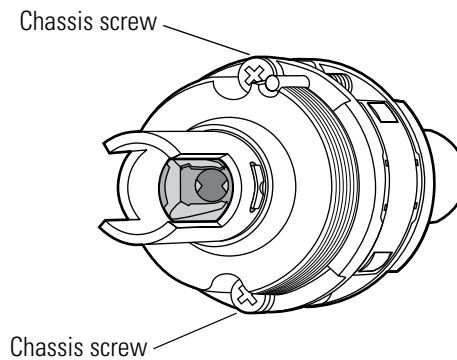

Figure 3.16 Separating the hub and sleeve assembly from the chassis
2. Remove the two chassis screws shown in Figure 3.16, and separate the hub and sleeve assembly from the rest of the chassis. Save the two screws.